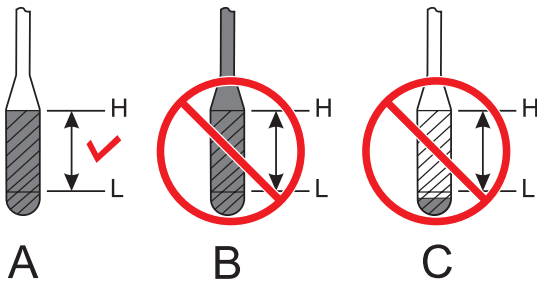

Figure 29. Engine Oil Dipstick
3. Reinsert the dipstick, then remove the dipstick from its holder. Check the oil level shown on the dipstick (Figure 29).